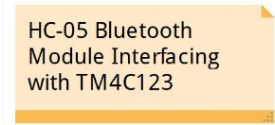

Figure 7: Circuit Connection
This module can be used to perform low-cost wireless communication between microcontrollers such as Arduino, TM4C123, Pic Microcontroller, Raspberry Pi, BeagleBone, STM32, and Arduino Mega, etc. Also, we can use it for communication between a microcontroller and PC or Android application. There are many Android applications available in the Google Play store which we can use to send and receive data to/from HC05. The pin configuration for this module is given in Fig. 7 with description given below.
- We will use a UART5 port. For the UART5 port, the PE4 GPIO pin is a receiver pin (Rx) and the PE5 pin is a transmitter pin (Tx). Now make connections with HC-05 Bluetooth module and Tiva Launchpad according to schematic diagram (Figure 7).